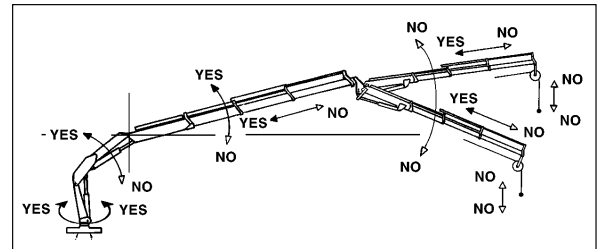

fig. 20
**Crane with activated limiting device by the intervention of the crane or the hydraulic jib (overload condition) and with outer boom of the crane above the horizontal line fig. 20**